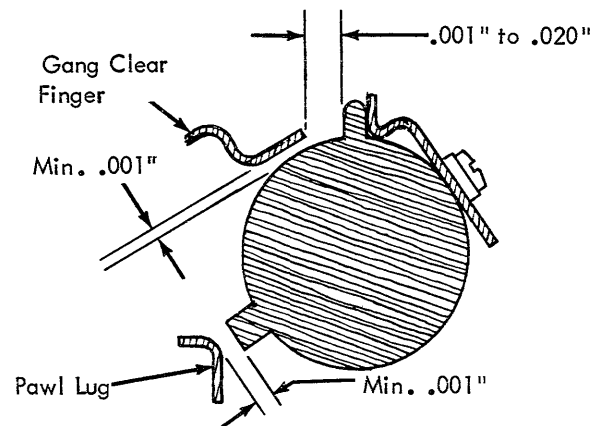

FIGURE 160. Gang Clear
- a. Adjust the gang clear finger front to rear to obtain .001" to .020" clearance (Fig. 160) between its tip and the nearest tab stop when all the tab stops are set.
- b. Form the end of the gang clear finger to obtain a minimum of .001" clearance (Fig. 160) between the gang clear finger and the tab rack tube. Check for interference between the top of the gang clear finger and the underside of the tab set spring.
- c. Check for a minimum of .001" clearance (Figure 160) between lugs on the rear of the escapement and backspace pawls and any set tab stop when the tab rack is rotated to the clear position and the pawls removed from the rack, as in a carrier return operation. If this clearance is not present, recheck tab rack position and pawl clearance adjustments.